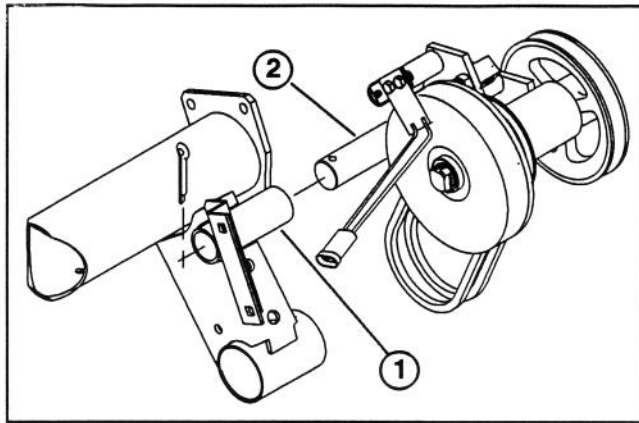

Figure 6
29. Align tightener bracket tube with frame mounting tube and slide pivot shaft through frame mounting tube (Fig. 6). Install cotter pin to other end of shaft.